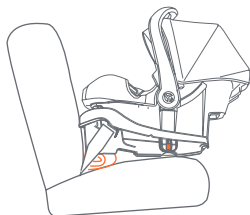

Fig. 51-4
- If the Seat Angle Indicator level line is not parallel with the ground, place a rolled towel, or pool noodle, under the front of the base at the foot end to achieve the correct position (Fig. 51-4). See section **7.5 Elevation Aids**. Re-tighten the vehicle seat belt as instructed in section, securing the Safety Seat or Base in the Vehicle.